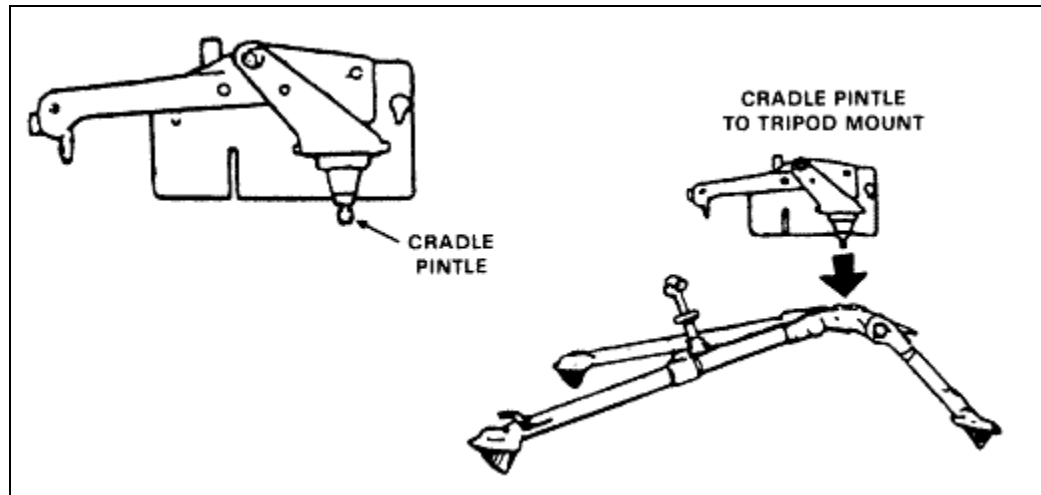

Figure 3-3. Insertion of pintle into pintle bushing.
- (1) Unlock the tripod pintle lock release cam.
- (2) Insert the gun cradle's pintle into the tripod pintle bushing (Figure 3-3).